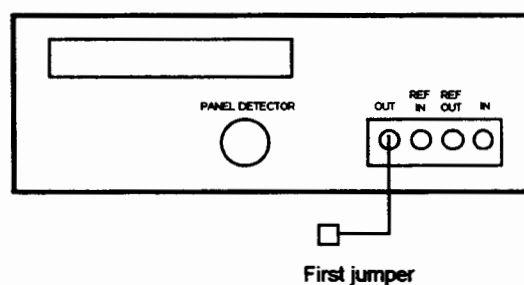

Figure 7: First Step in the PDL Reference Measurement
1. Connect the FC/APC end of the first measurement jumper to the OUT port of the PS3 meter (figure 7).